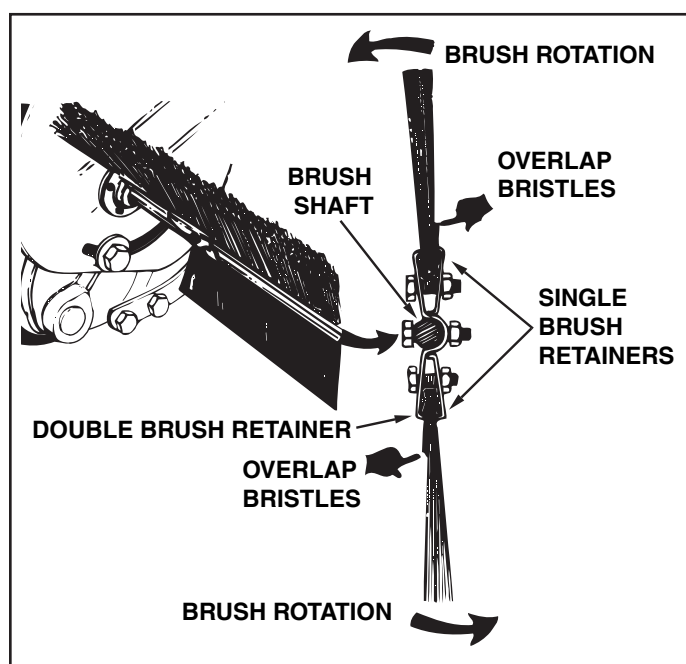

FIGURE 21
2. Loosen the hex bolts and lock nuts on two single brush retainers which clamp one brush to the double brush retainers. **Do Not loosen** or remove the bolts which fasten the double brush retainers to the brush shaft. See figure 21.
3. Slide the brush out of the retainers, noting on which side of the brush the bristles overlap. See figure 21.
4. Install new brush, making sure the bristles overlap on the same side of the brush as before. See figure 21.